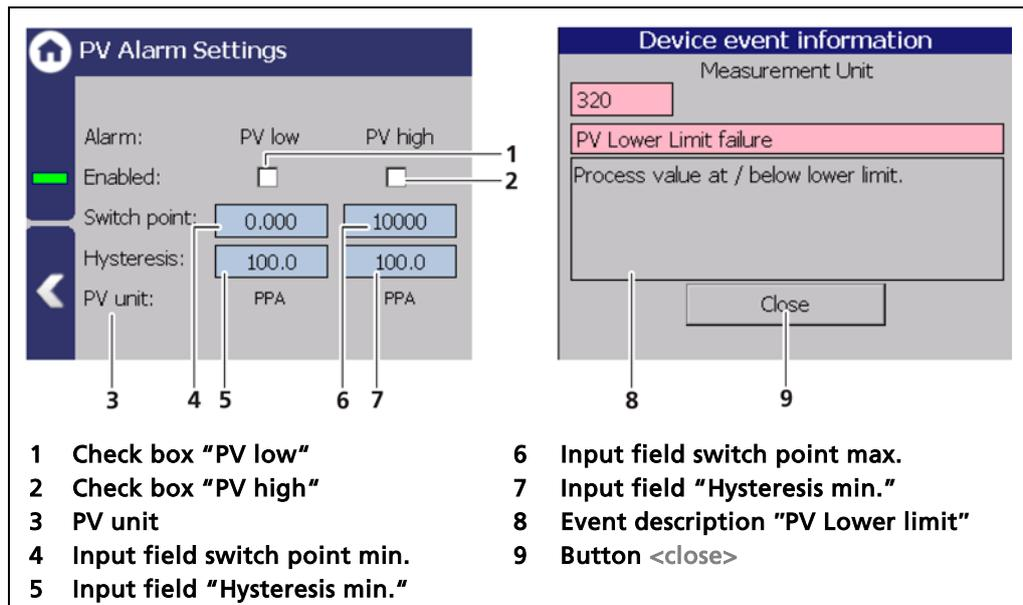

Fig. 83 PV Alarm Settings
The PV unit (Fig. 83, item 3) is displayed that is selected in the menu Expert Setup | Setup | System | Units in the box "PV Units".